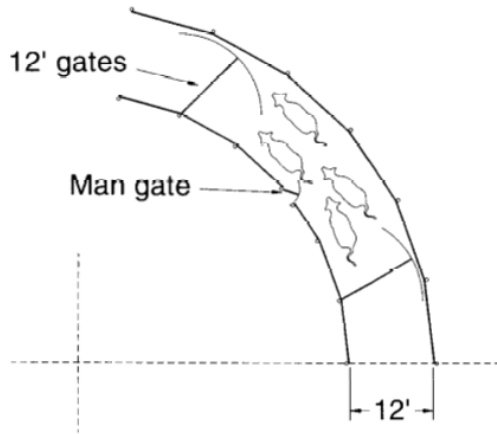

Figure 2 Collection Alley Example
- The alley should include two 12' prairie gates to divide cattle into smaller groups within the alley. The gates should be 12' from each end. A man gate should be in the center of the chute (Figure 2).